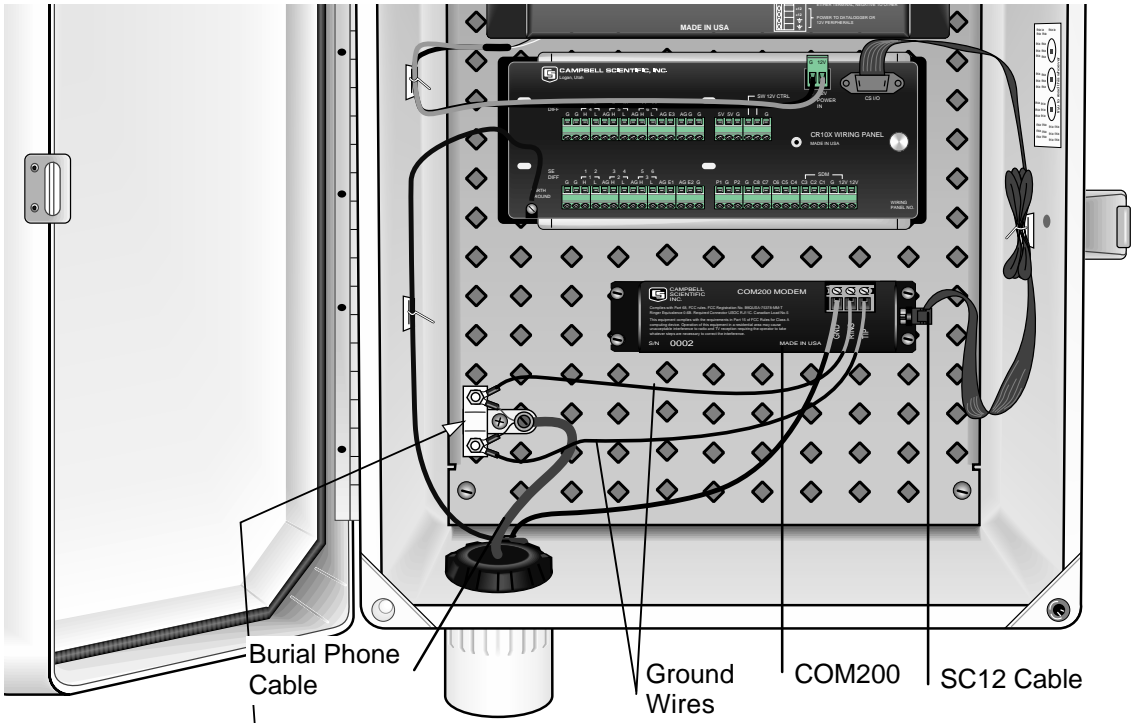

FIGURE 3.3-2. DC112 Modem with 6362 Surge Protector
Mount the modem to the enclosure backplate as shown in Figure 3.3-2.
3. The telephone company generally provides surge protection, and a patch cord that plugs into the RJ11C jack. If surge protection has not been provided, the Model 6362 Surge Protector Kit can be installed to the enclosure backplate. Connect the two terminals on the surge protector to the "tip" and "ring" terminals on the modem as shown in Figure 3.3-2.